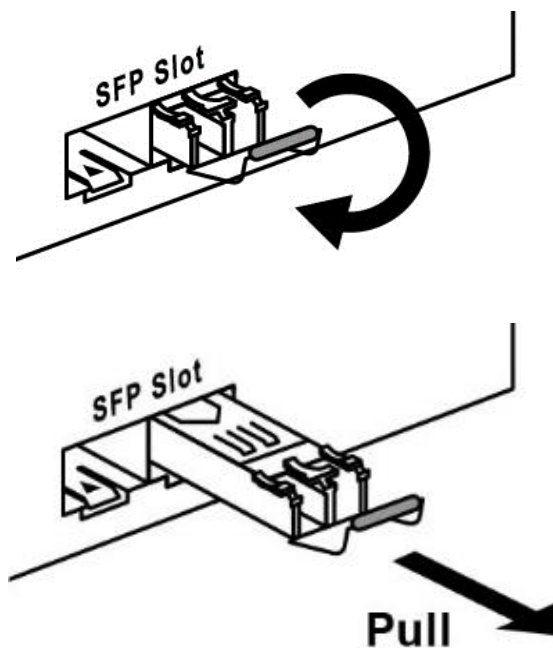

Figure 2.8: Pull Out from the SFP Slot
Step 2 Push down the metal clasp and pull the transceiver out by the plastic part as shown below in Figure 2.8